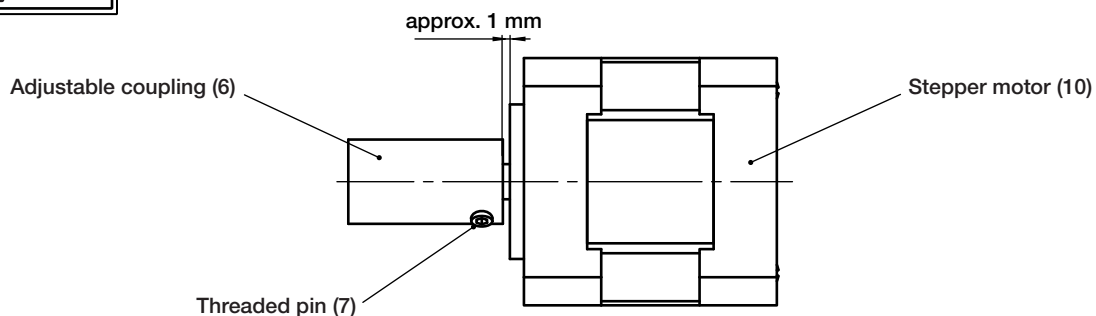

Fig 9: Adjustable coupling to stepper motor flange adjustment measurement
Now the stepper motor (10) is fit together with the adjustable coupling (6). Slide the adjustable coupling with the \varnothing 5 mm hole on the shaft of the stepper motor and adjust the distance to approx. 1 mm to the stepper motor flange (see Figure 9).